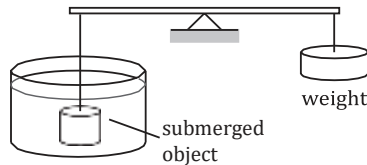

FIGURE P2.7.
7. A brass cylinder (Sp. Gr. = 8.5) has a diameter of 25.4 mm and a length of 101.6 mm. It is submerged in a liquid of unknown density, as indicated in Figure P2.7. While submerged, the weight of the cylinder is measured as 3.56 N. Determine the density of the liquid.